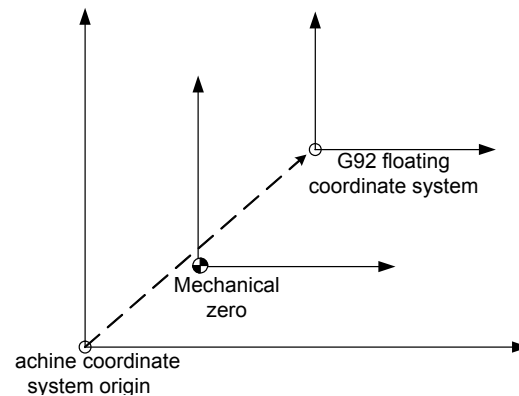

Fig. 4-2-11-1
1. The above-mentioned Fig. 4-2-11-1 shows that the corresponding origin of the G92 floating coordinate system is the value below the machine coordinate system, which is nothing to do with the workpiece coordinate system.